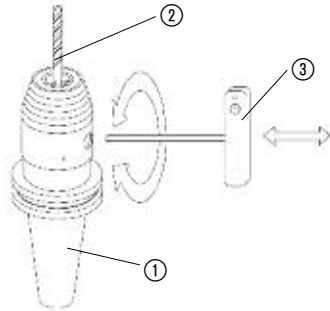

Fig. 2
Turn the Allen-T-wrench ③ clockwise to clamp the cutting tool using the torque mentioned in the table on page 12 to clamp the tool properly (Fig. 2).